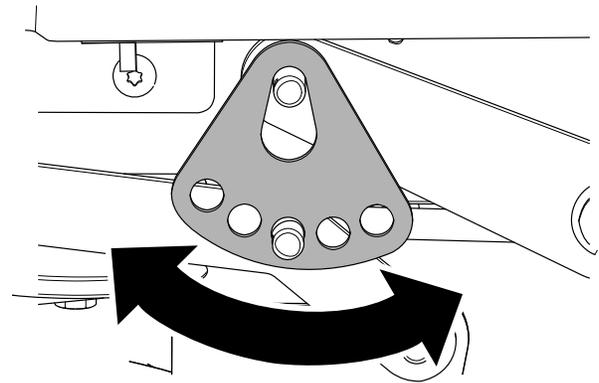

Figure 62
- Rotate the height-of-cut plate to a different hole so that it supports the weight of the mower deck after you install the plate (Figure 62).
- Install the washer and hairpin cotter (Figure 62).